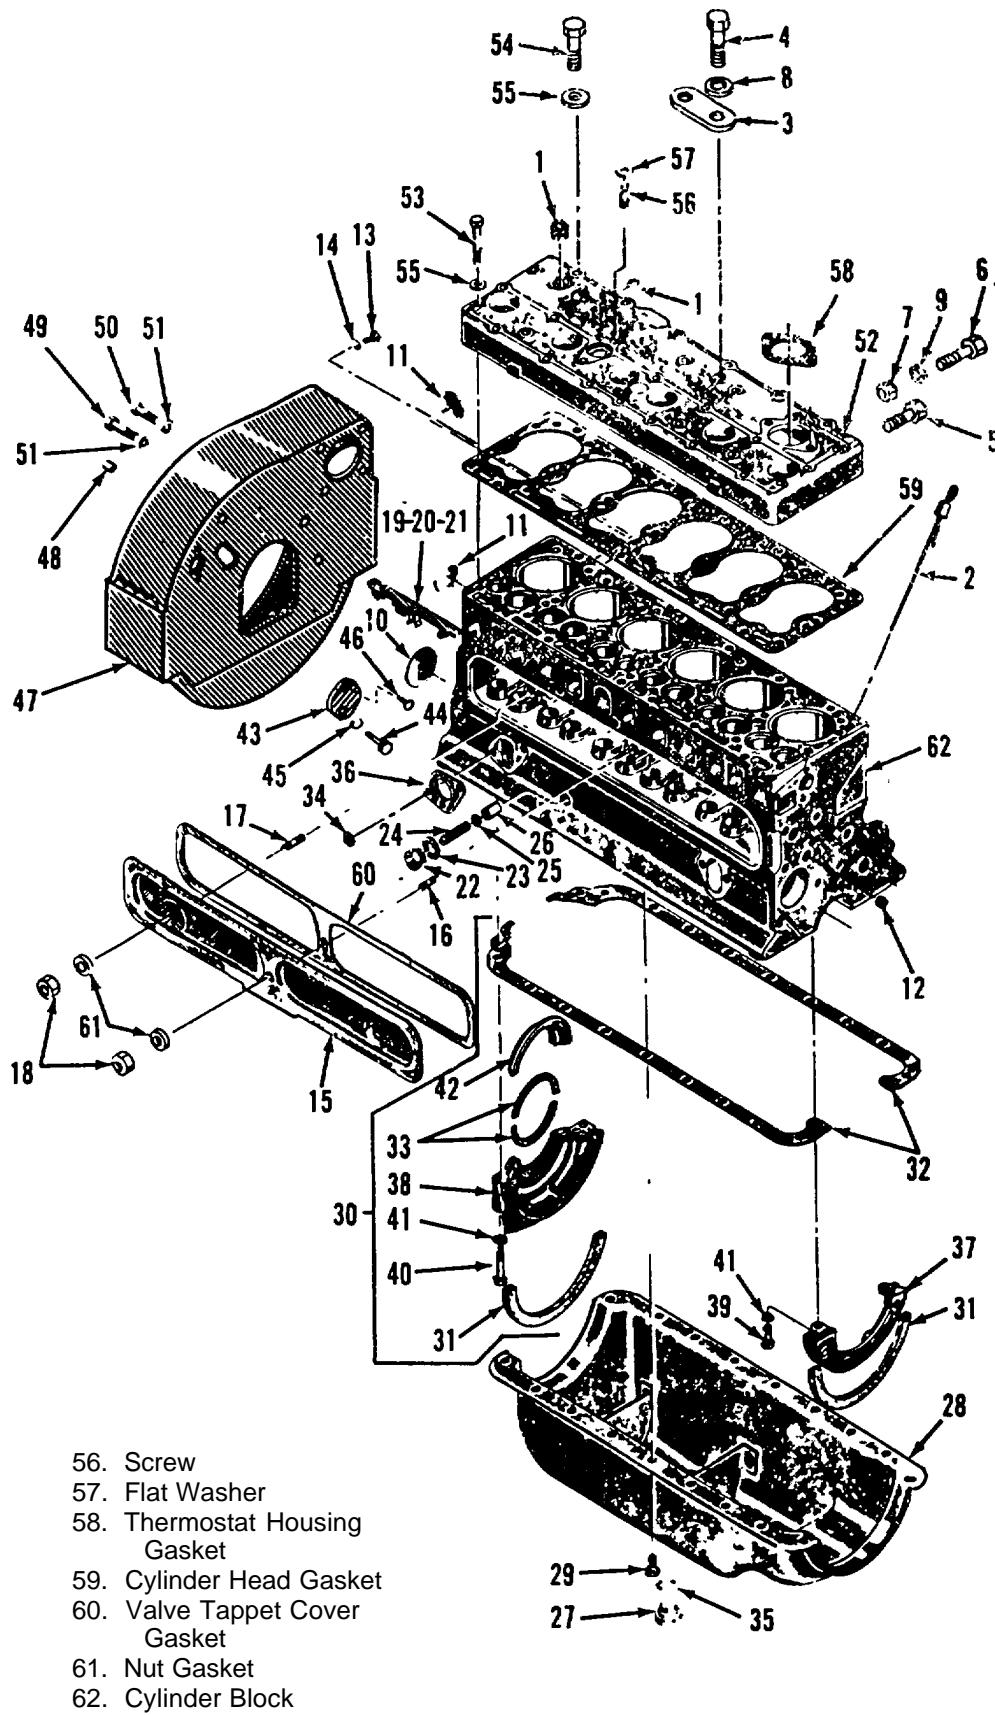
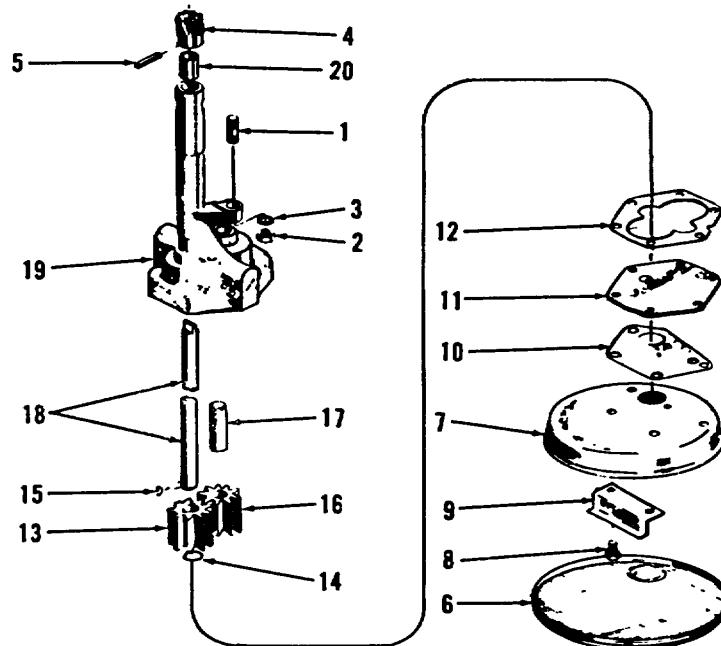

Figure 4-22. Engine Cylinder Block, Head and Oil Pan Group, Exploded View
Figure 4-26. Engine Oil Pump Assembly, Exploded View
1. Remove cylinder head screws (4, 53, and 54, figure 4-22) and washers (8 and 55), and remove cylinder head (52) and gasket (59) from engine cylinder block (62).
1. Remove stud nuts and lock washers and remove elbow (housing) (27 figure 4-22) and thermostat from cylinder head (52).
1. Remove valve chamber cover (15, figure 4-22).
1. Remove attaching screws (29, figure 4-22), and remove oil pan (28). Scrape old gasket (32) and seal remains from pan and block.
2. Remove screws (39) and remove front filler block (37) and seal (31).
3. Remove screws (40) and remove rear filler block (38) and seal (31). Remove half of seal (33) from filler block. Remove gaskets from engine block.
4. Remove oil guard (42) by pushing it around crankshaft and out of engine block. Remove second half of seal (33) from oil guard.
4-94. REMOVAL. Remove nut (2, figure 4-26) and washer (3). Remove oil pump body (19) and assembled parts from crankcase of engine block (62, figure 4-22).
1. Remove screen (6, figure 4-26), screw (8), frame (7), spacer (9), pump cover (11), gaskets (10 and 12), retaining ring (14), gears (13 and 16), key (15) and stub shaft (17).
2. Drive out pin (5) and remove gear (4), bushing (20) and drive shaft (18).
2. Mark flywheel (7) to crankshaft (37) relationship for reinstallation, and remove flywheel from crankshaft by use of jackscrews.
3. Remove cap screws (49 and 50, figure 4-22) and lock washers (51) that secure flywheel housing (47) to engine block (62).